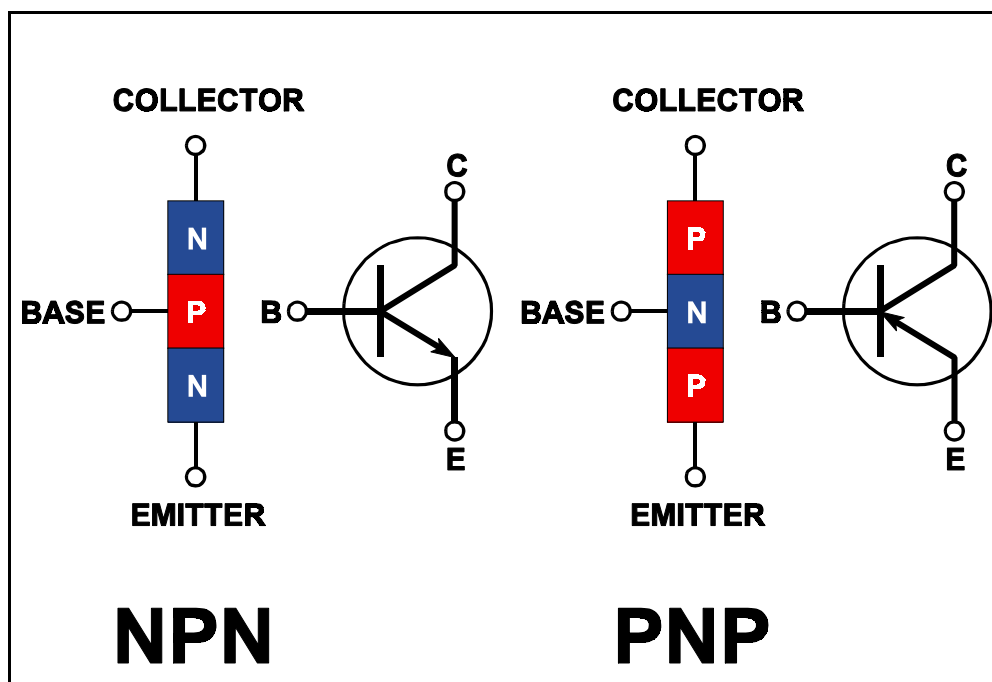

Figure 17.8 The Bi-Polar Transistor
**Construction:** This is a combination of two junction diodes and consists of either a thin layer (typically 25  $\mu\text{m}$ ) of p-type semiconductor sandwiched between two n-type semiconductors (as shown in Figure. 17.8 left) which is referred to as an n-p-n transistor, or a thin layer of n-type semiconductor sandwiched between two p-type semiconductors (as shown in Figure 17.8 right), which is referred to as a p-n-p transistor.